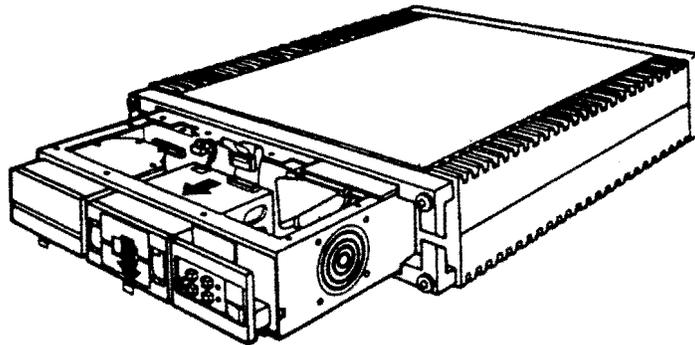

Figure 4-20: RX50 Removal
2. Push down the release tab, and slide the drive forward and out (Figure 4-20).